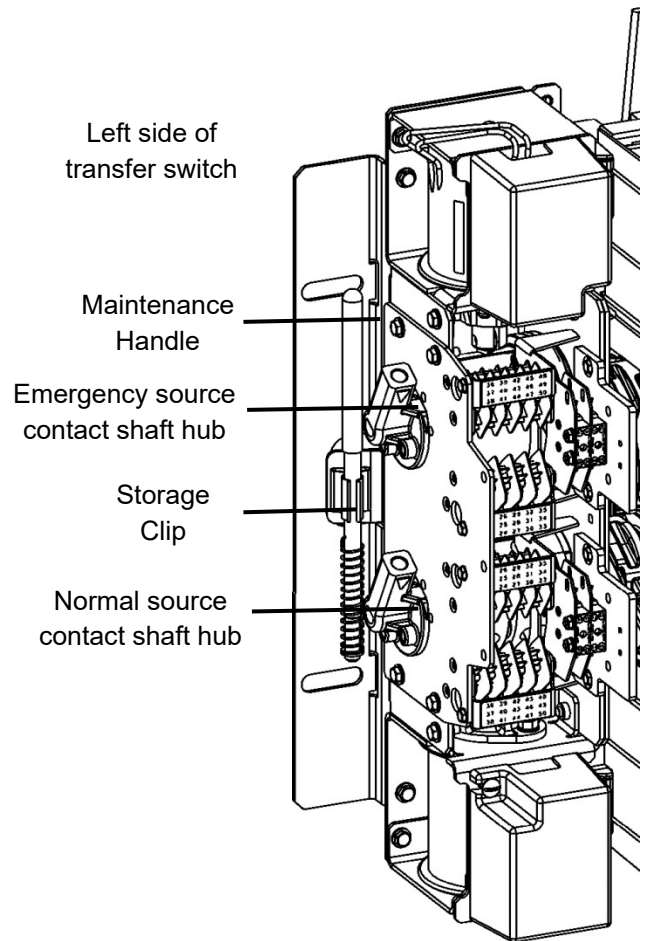

Figure 3 Maintenance handle storage location. Hubs shown with Normal closed & Emergency open
1. After deenergizing both power sources, open the enclosure door. Locate and remove the maintenance handle from the clips on the left side of the transfer switch frame. Insert the handle into the hole in the molded hub on the left side of the operator. See Figures 3, 4, 5 Table B.